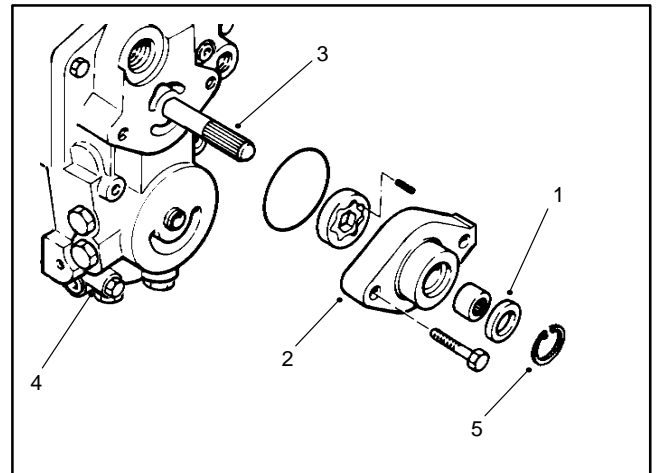

Figure 75
3. Remove retaining ring, then carefully remove seal from bore in charge pump cover (Fig. 75).